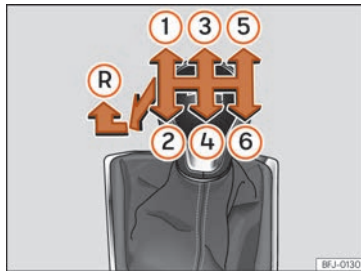

Fig. 166 Gear shift pattern of a 6-speed manual gearbox
The position of the gears is indicated on the gearbox lever »» Fig. 166.
»» Fig. 166 (R).